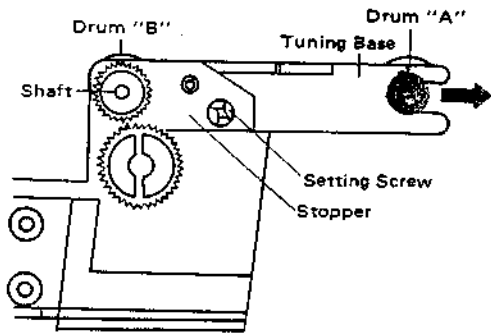
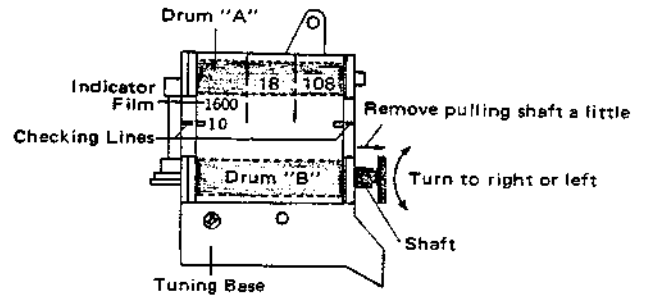

Fig. 32
Fig. 34
3. Remove the drum "A" to rightward (Fig. 32).
7. Unfasten a setting screw, remove stopper (Fig. 32) and pulling shaft a little from drum "B" (Fig. 34).
8. By tuning the shaft, set the figure of dial indicator to checking lines marked on center of tuning base (Fig. 34) and fasten a setting screw, stopper unfasten previously (Fig. 32).